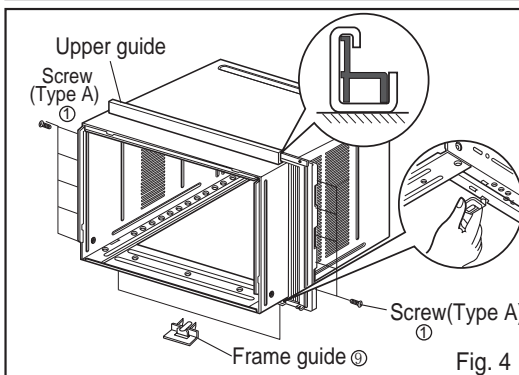

Fig. 4
6. Fasten the curtains to the unit with 8 Type A screws. (Fig.4)